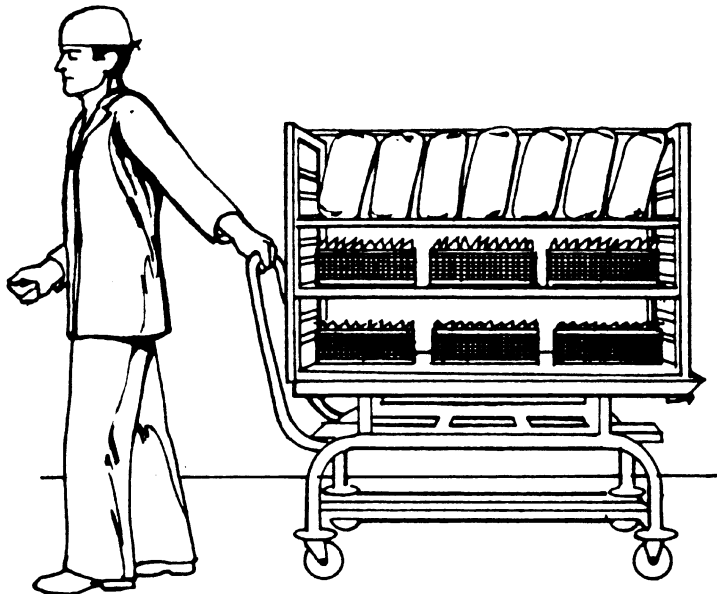

Figure 29. PULL LOADING CAR TO AERATOR – DO NOT PUSH.
- 3) Transfer loading car to aerator immediately following the 15 minute waiting period. **Pull loading car to aerator. Do not push** (Figure 29).